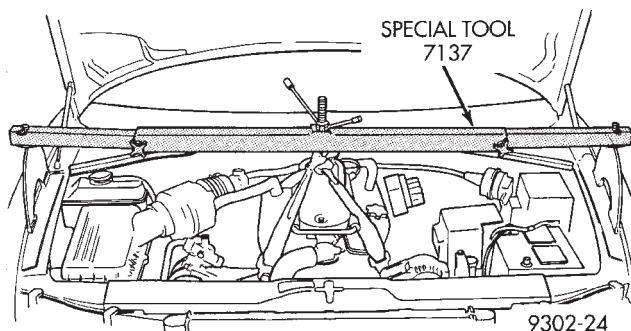

Fig. 5 Engine Supporting Fixture Installed 3.3 Ltr.
To allow for removal of the cradle module assembly from the vehicle. It will be necessary to support the engine and transaxle assembly using Fixture, Engine Support, Special Tool 7137 or equivalent. Refer to (Fig. 5 to 9) for engine supporting locations depending on engine application.
(1) Mount Fixture, Engine Support Special Tool 7137 or equivalent across engine compartment (Fig. 5). Using nylon webbing material such as seat belt material or equivalent, mount it to the following locations on the 3.3 ltr. engine.
(2) Remove bolt attaching A/C compressor bracket to front of engine. Install webbing material hook on A/C compressor bolt, install bolt and tighten (Fig. 5 and 6).
(3) Loosen but do not remove generator to engine mounting bolt, remove spacer between generator and engine. Install webbing material hook between generator and engine, re-install and tighten original bolt (Fig. 5 and 6).
(4) Remove electronic ignition coil, mounting bracket bolt from rear of engine. Install webbing material hook on bracket bolt and re-install and tighten bolt. **Note: Route webbing material between fuel injector rail and valve cover, not between fuel injector rail and intake manifold.**
(5) Mount remaining piece of webbing material to left cylinder head using threaded hole on back of cylinder head. Using a bolt of the correct thread size and length, install webbing hook on bolt. Then install bolt into threaded hole on back of cylinder head and tighten bolt.
(6) Securely attach pieces of webbing material to hook on engine holding fixture (Fig. 5). Tighten hook on engine holding fixture until all slack is removed from all 4 pieces of webbing material.